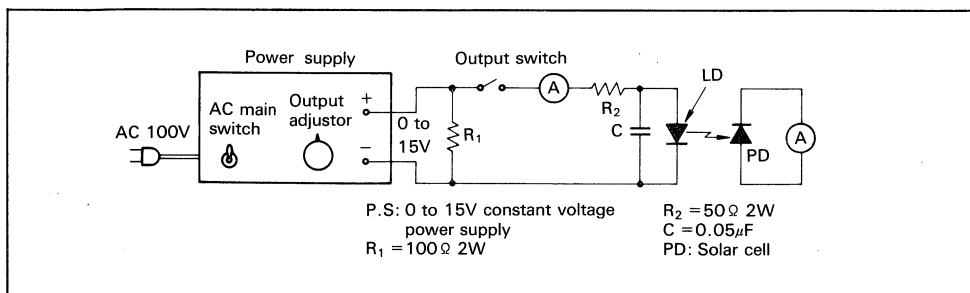

Figure V-3. Simple Drive Circuit
(2) Operating laser diodes:
- (iii) Before connecting a laser diode to the power supply in the ON-state as shown in Fig. V-3, set the output level at minimum. Also, before disconnecting a laser diode from the power supply, set the output voltage at minimum. After disconnecting, turn off the main switch.
(3) LD drive circuit: